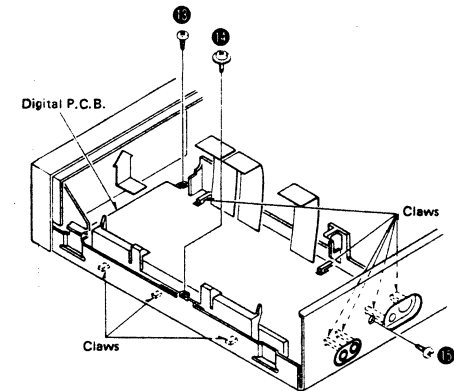

Fig. 6
2. Remove the 2 setscrews [Fig. 6 : ⑬, ⑭] of P.C.B. holder.
3. Remove the setscrew [Fig. 6 : ⑮] of the output jack holder.
4. Remove the P.C.B. (with holder) in the direction of the arrow. [Fig. 6]